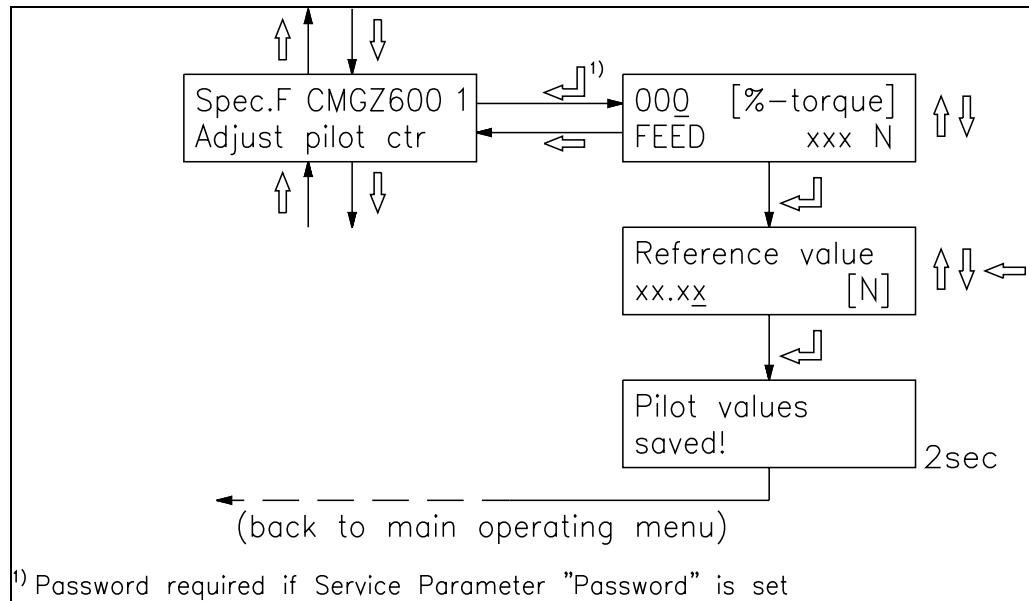

fig. 21: Program flow for special function „Adjust pilot control“
- In the main operating menu, press MODE key. Search and select the module *Spec.F CMGZ600 1* and the special function *Adjust pilot ctr* with the ↑ ↓ ↵ keys (fig. 15). Enter the previously calculated torque value into *%-torque* and confirm with ↵ key (fig. 21). Enter the previously noted reference value [N]. After confirmation with ↵ key the calculated pilot control value is saved together with the actual diameter signal.